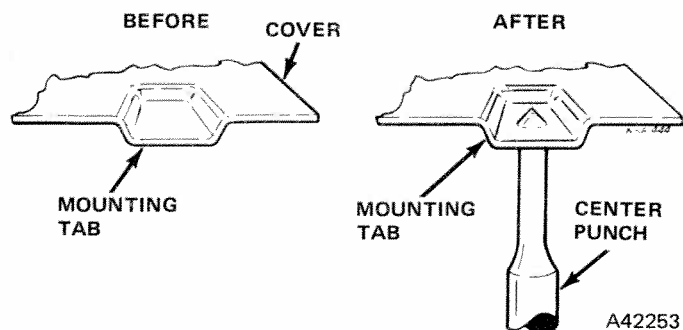

Fig. 3-97 Center Punching Covers
- (1) Be sure radio has good ground.
- (2) Tighten all radio chassis screws.
(3) Center punch cover to make good electrical contact with front of case (fig. 3-97).